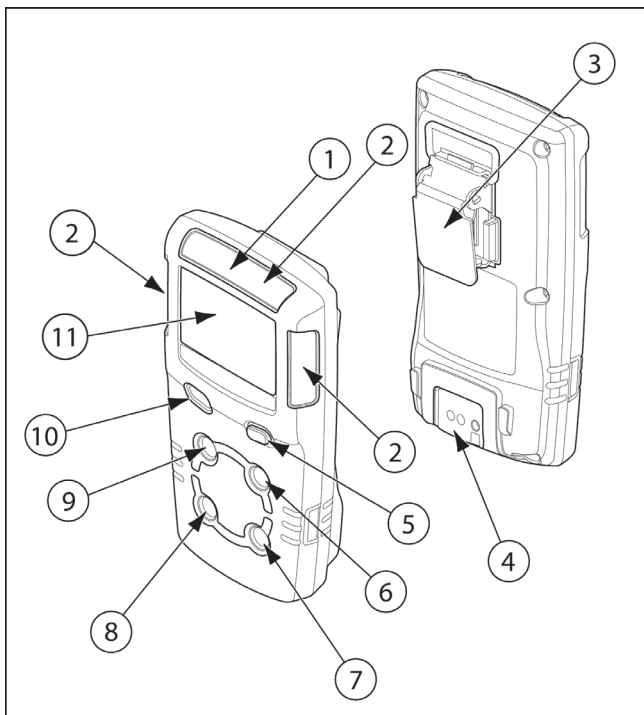

Figure 1. Parts of the GasAlertMicroClip XT
- Figure 1. and Table 3. describes the detector's components.